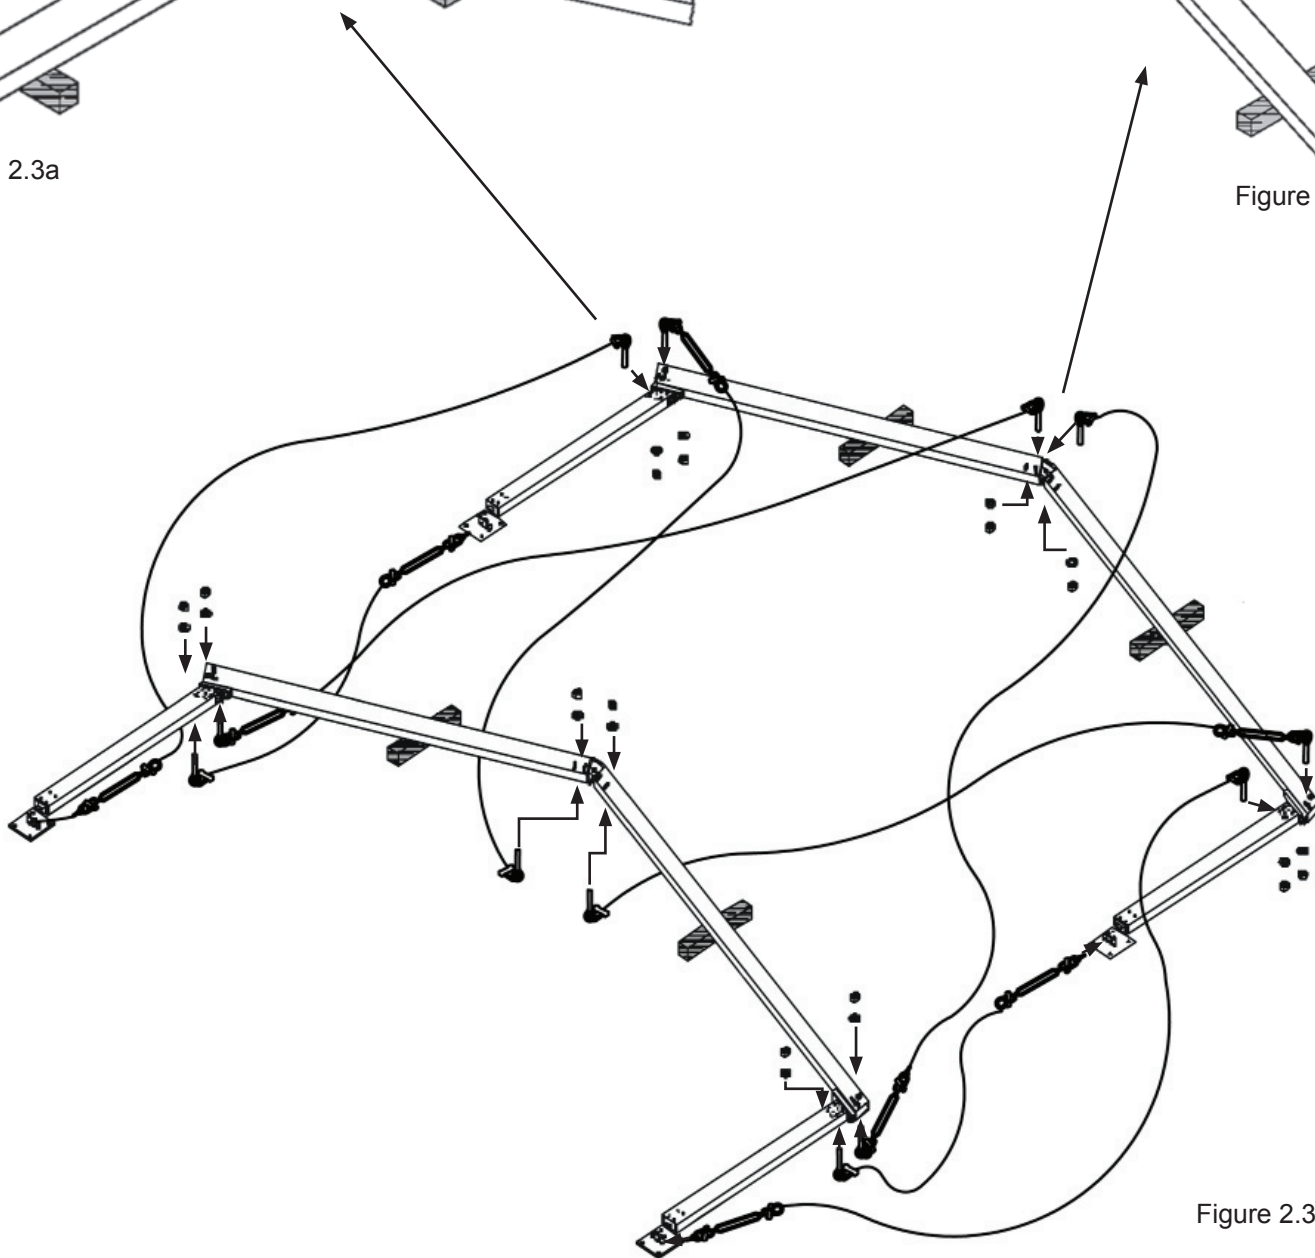

Figure 2.3c
2.3 Assembly of Cable Bracing: See Cable Configurations on page 7. Layout Cables in the appropriate bays. Install the cables so that the turn-buckles at the uprights are closest to the ground and at the roof cables are closest to the eave. For smooth installation, unscrew turnbuckles 3/4 of the way out, and keep threads lubricated. **See Figure 2.3c.** The cables have color coded labels; green labels indicate upright cables and blue labels indicate roof cables.